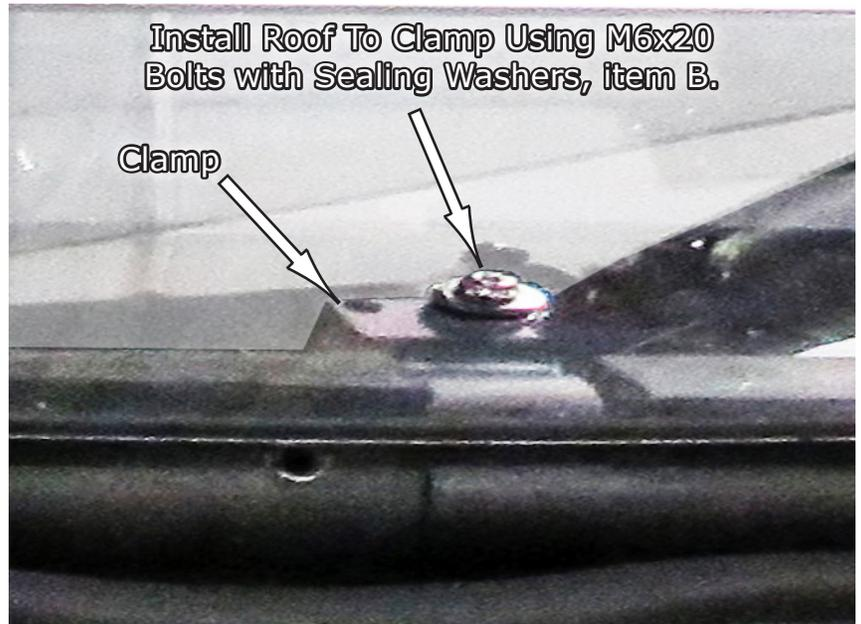

Fig.8
10. Install the roof to the clamps using the M6x20 (Item B) screws with sealing washers, item B. See **Fig.8**.
(Fig.8 is showing the use of a clear poly roof panel so you can see the clamp in its orientation with the roof panel. For visualization only)